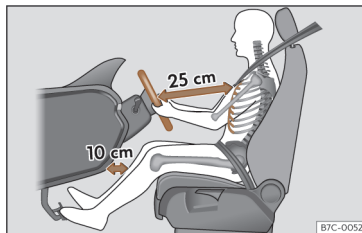

Fig. 36 The correct distance between the driver and the steering wheel must be at least 25 cm (10 inches).
- Adjust the steering wheel so that it is at a distance of at least 25 cm (10 inches) from the sternum >>> **Fig. 36** and can hold it with both hands on the sides, on the outside, with the arms slightly flexed.